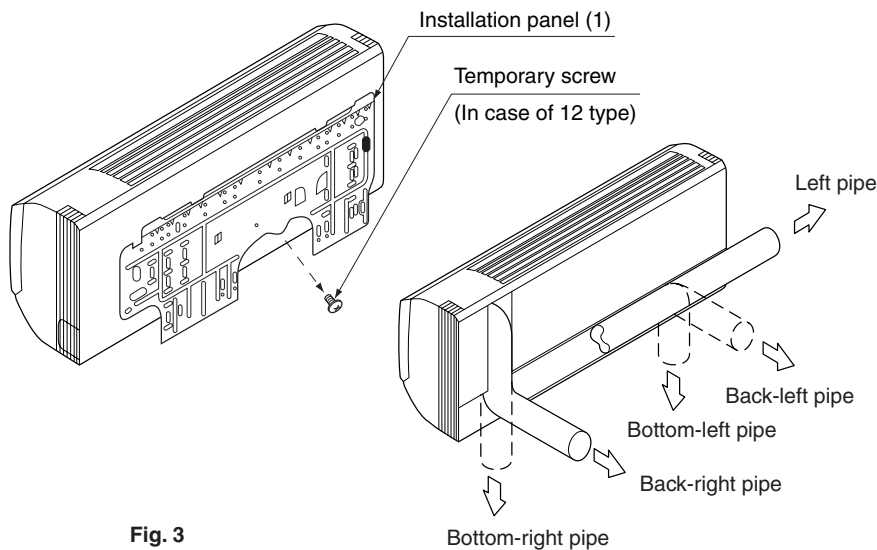

Fig. 3
(1) Open the piping through-hole.
- The refrigerant pipe and drain pipe can be passed through in one of 5 directions: left, bottom-left, back-left, bottom-right, and back-right. **(Refer to Fig. 3)**
- Using the paper pattern for installation (3), choose where to pass the piping out and open a through-hole ($\phi 3 \frac{1}{8}$ " / 28.6 mm) in the wall.
(Refer to Fig. 3)
- Connect the local refrigerant piping ahead of time, matching it to the liquid pipe and gas pipe marks engraved on the installation panel (1) in **Fig. 3**.